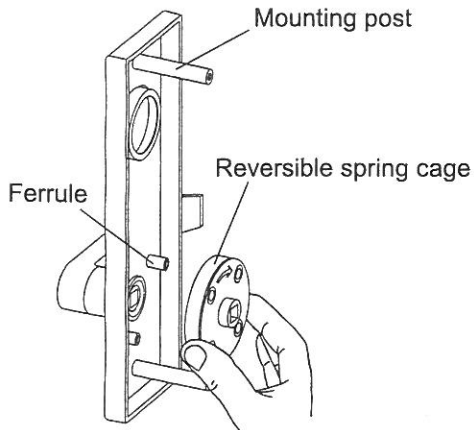

Figure 6-1
1. Make sure the direction of outside lever to be installed, then place the reversible spring cage into ferrules with arrow pointing in direction of lever rotation and fasten with screws. (See Figure 6-1.)